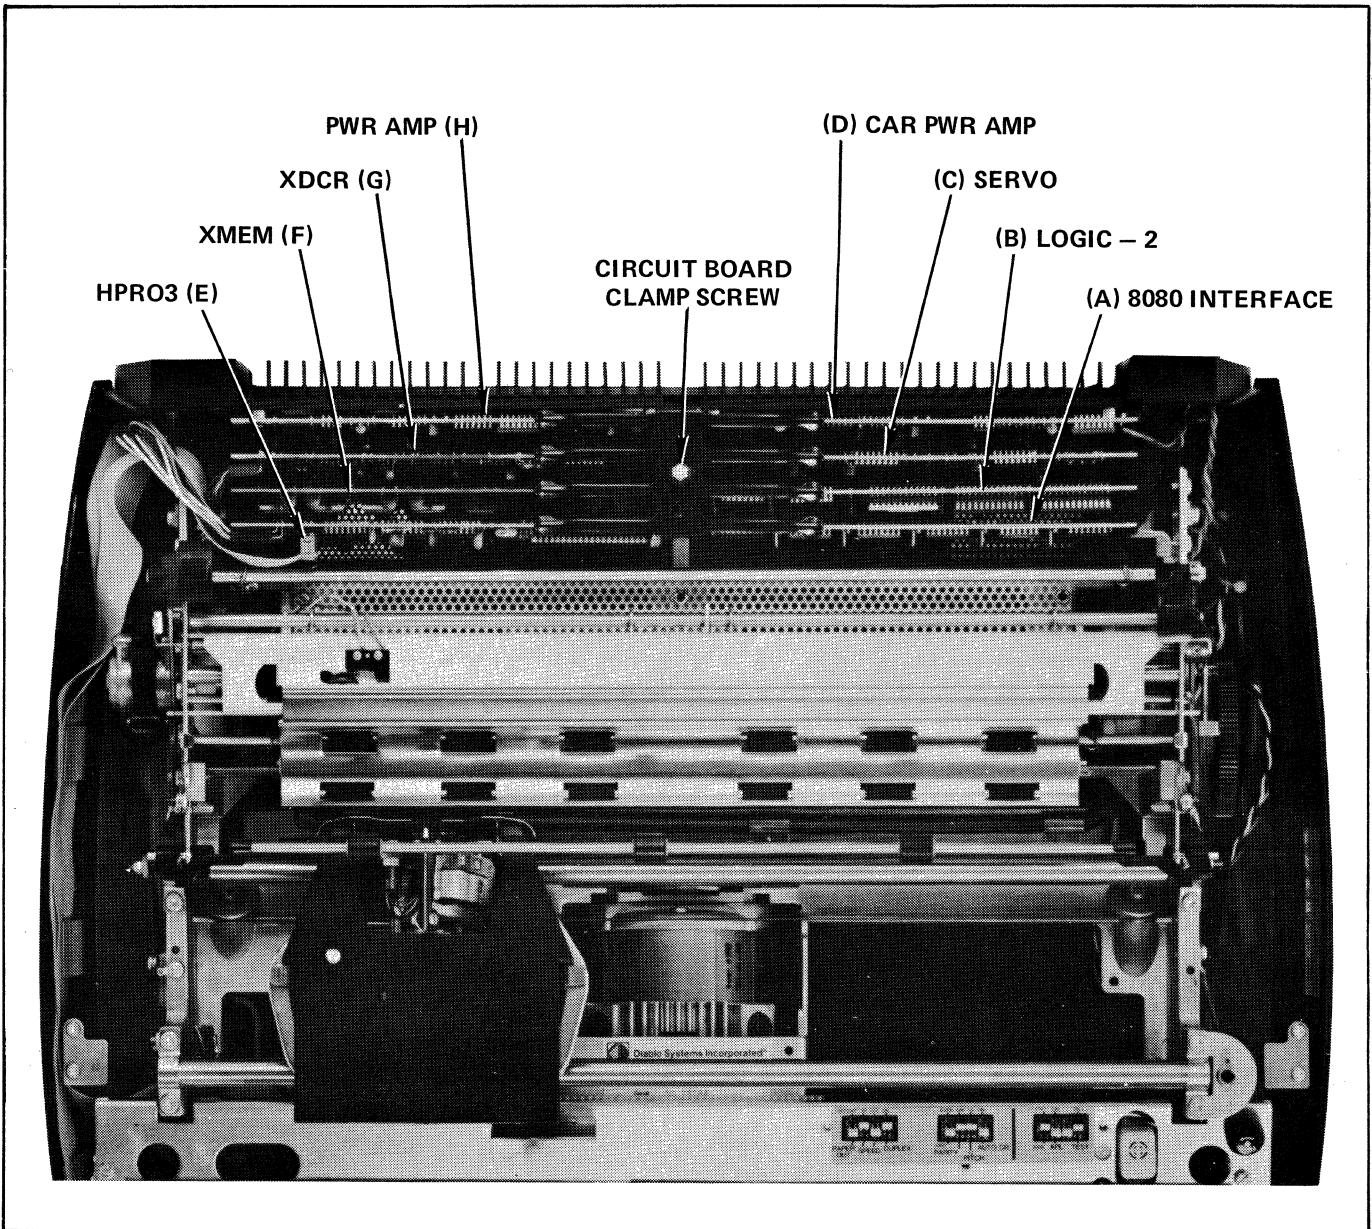

Figure 3-4. Circuit Board Location
- (3) Remove the top cover (3.1.2).
- (4) Using a Phillips screwdriver, loosen the single screw in the center of the circuit board clamp (Figure 3-4) and remove the clamp.
- (5) Locate the board to be removed. See Figure 3-4.
- (6) Grasp the board firmly at the two upper corners and pull it straight up.
- (7) Disconnect any remaining cables from the board.
- (1) If the HPRO board is being installed, first attach the keyboard cable to the P2 connector on the circuit board.
- (2) Holding the board with the components toward the front of the machine (toward the platen), insert the board into the guides and slide it all the way in.
- (3) Using firm, equal pressure on both upper corners of the board, push it in so that it is fully seated into the socket. If excessive resistance is encountered, check first to make sure the proper board is being installed in the socket: all boards are keyed so they will not fit in the wrong socket. Refer to Figure 3-4.
- (4) Reconnect any remaining cables. Make sure the lower plug (J8B) on the XDCR board and the control panel plug (J2) on the HPRO3 board are not turned over; it is possible to install these plugs upside down.
- (5) Replace the platen, insert a sheet of paper, and test the HyTerm briefly.
- (6) After determining that the HyTerm is operating properly, remove the platen, replace the circuit board clamp, the top cover, and the platen, and test again.